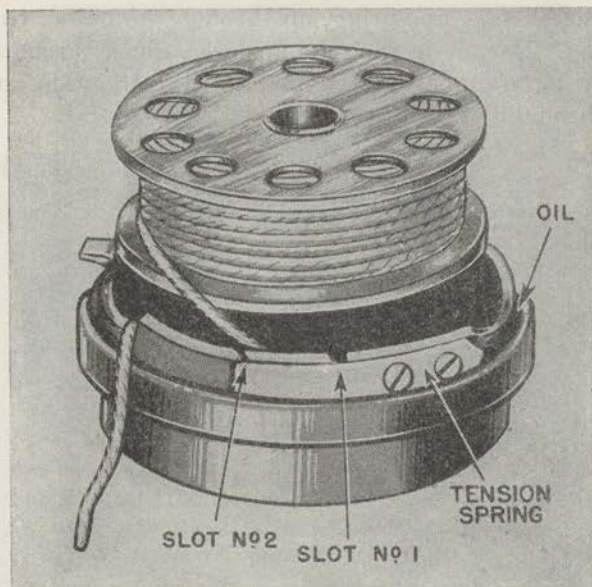
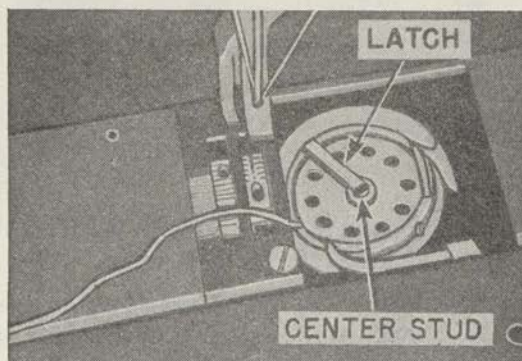

FIGURE 94.—Direction of thread on bobbin.
FIGURE 95.—Bobbin case threaded.
(2) Apply a few drops of oil four times daily to the felt pad in the side wall of the bobbin case (see fig. 94).
h. To replace bobbin and thread bobbin case.—Hold the bobbin between the thumb and forefinger of the right hand, the thread drawing on the bottom from left to right (fig. 94) and place it on the center stud of the bobbin case. Then push down the latch (fig. 95). Draw the thread out through Slot No. 1 (fig. 94), back
of tension spring, and into Slot No. 2 (figs. 94 and 95), leaving a loose end of thread about 2 inches long above the slide. When closing the slide plate, leave just enough space for the thread to pass through.
(2) The tension on the bobbin thread is regulated by the screw nearest the center of the tension spring on the outside of the bobbin case (fig. 94). To increase the tension, turn this screw to the right; to decrease it, turn the screw to the left.